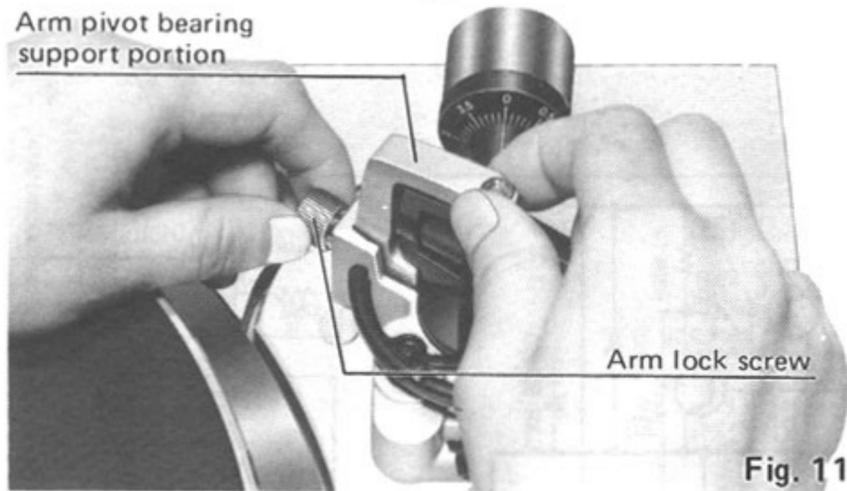
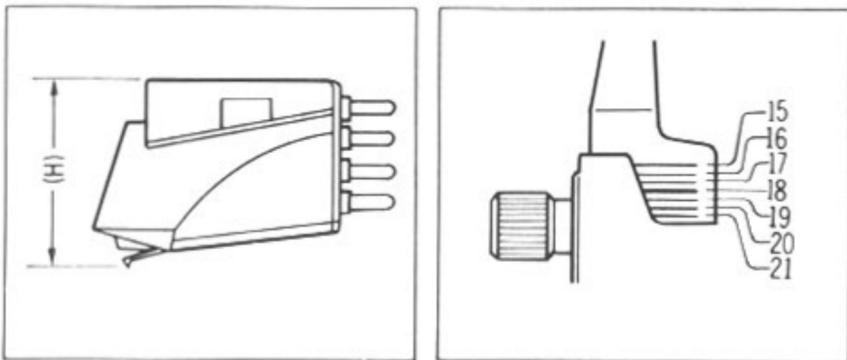

Fig. 11
Fig. 12
Adjustment of the arm height. (See Fig. 11, 12)
- If the cartridge height is 18 mm as shown in figure 11, align the fourth line ("18") on the gimbal support portion with the arm base edge as shown in the picture. (See Fig. 12)